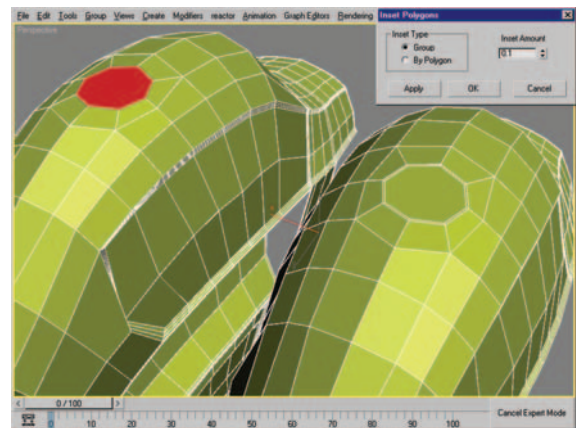

Figure 8.87 Polygon selection before and after using Inset.
12. At the Polygon subobject level, select the polygon shown in Figure 8.87 (left) and use the Inset settings dialog box with an Inset Amount of 0.1 to create the result seen in Figure 8.87 (right).